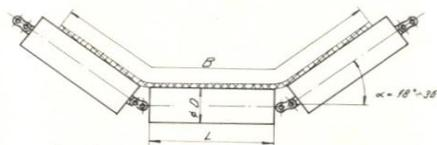
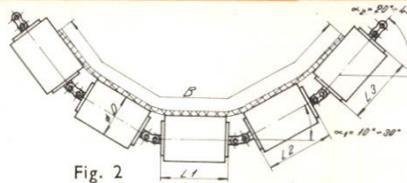

Fig. 1
Fig. 2
- **C3g** and **C5g** according to fig.1 and fig.2 are used to sustain and align the carried side of belt.